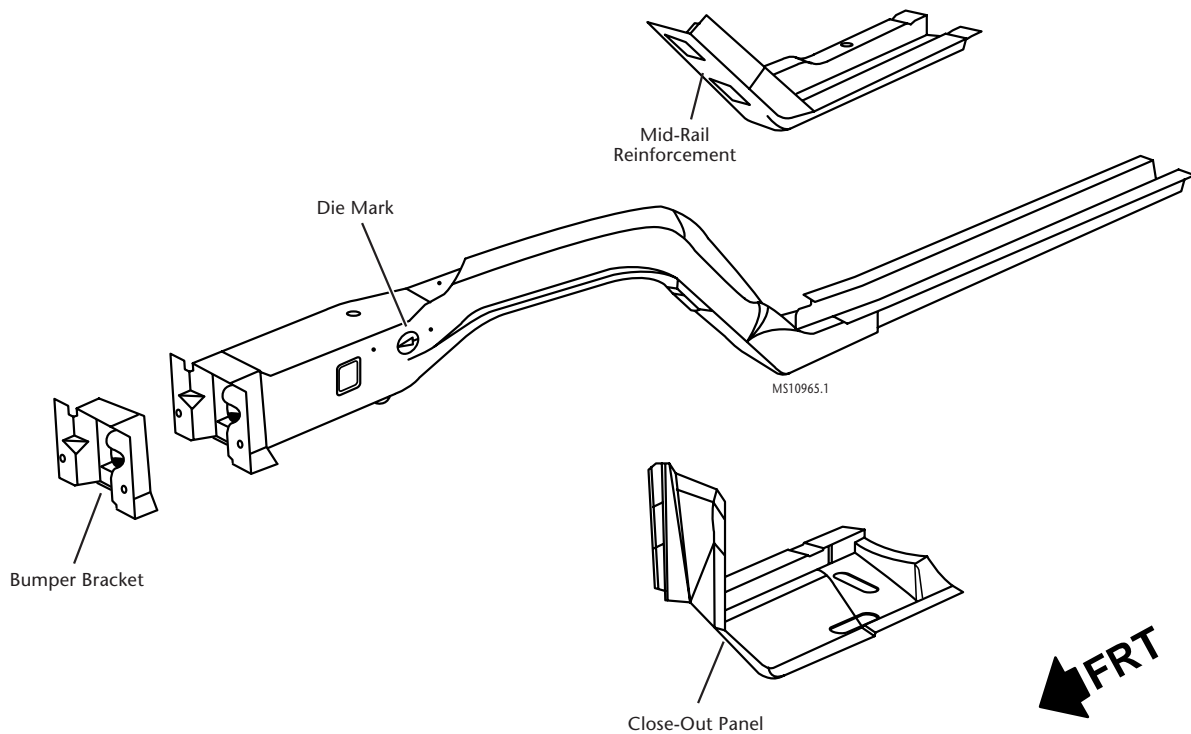

Figure 5-9:
The lower rail service part comes as a sub-assembly, which consists of seven brackets and panels. Instruction sheets are also included. The front bumper brackets are available and serviced separately. Die-marks have been added to the rails to indicate sectioning locations (figure 5-9).
The lower rail close-out panel is attached to the lower edge of the cowl on the outboard side of the lower rail. The mid-section of the lower rail is sandwiched between the close-out panel and the floor pan for added vehicle strength and rigidity (figure 5-9). When performing a full rail replacement, the close-out panel must be removed and installed, or replaced if necessary.
- 4 The close-out panel must be removed to access all of the factory welds attaching the rail to the vehicle (figure 5-9).
Position the mid-rail reinforcement to the new service rail and plug weld as necessary as noted from the original rail (figure 5-9).